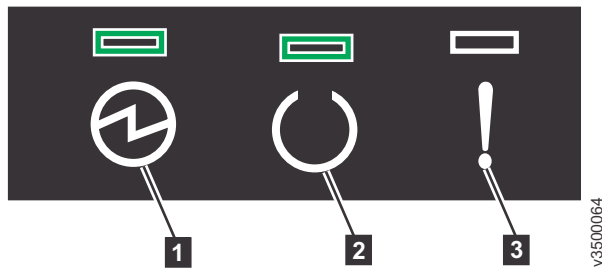

Figure 38. Node canister LEDs
5. Check the LEDs on each node canister in the control enclosure (see Figure 38).